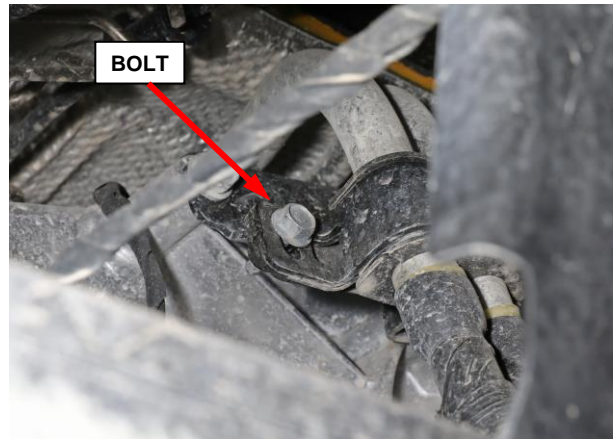

Figure 11 – PPU Wiring Harness to Transfer Case
24. Remove the fasteners from four locations securing the PPU wiring harness to the transfer case and transmission (models with eTorque only) (Figures 11- 14).